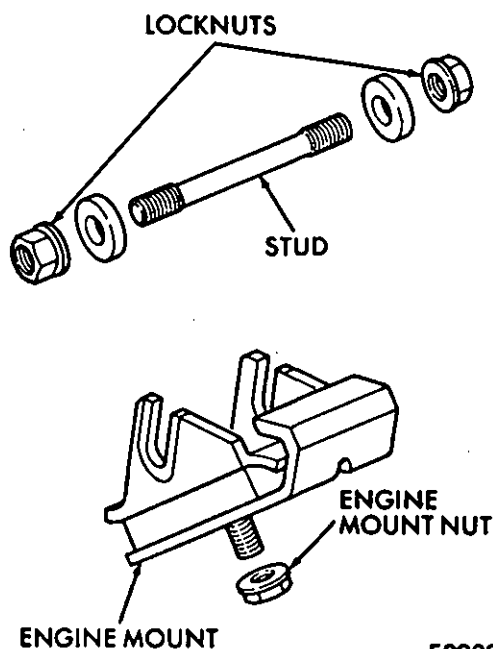

Fig. 1—Front Engine Mount
- (1) Disconnect the battery negative cable.
- (2) Loosen the stud locknuts (Fig. 1).
- (3) Raise the engine enough to remove the engine mount. It may be necessary to disconnect the engine damper.
- (4) Remove the engine mount nut (Fig. 1).
- (5) Remove the engine mount (Fig. 1).